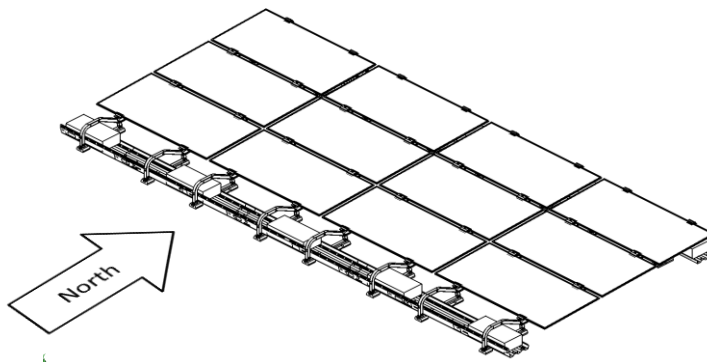

Figure 12 Install required ballast
3.18. Install required ballast into the second row of Ballast Trays and bend up the end tabs located at the end of each Ballast Tray (Figure 12). Reference the Racking Construction Set to determine ballast quantity and proper placement per Ballast Tray.